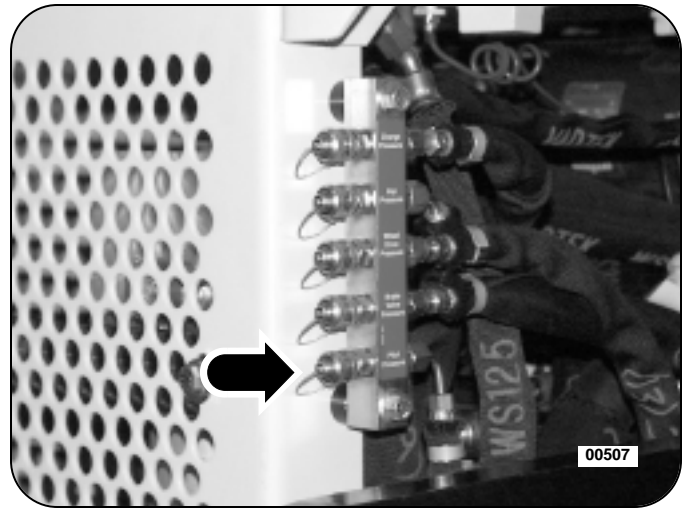

Figure 1: Pilot Pressure Gauge Port Tap
3. Connect the 600 psi pressure gauge, with the TIMBCO quick-couple adapter attached, to the gauge port tap provided on the centralized pressure check manifold. See Figure 1.